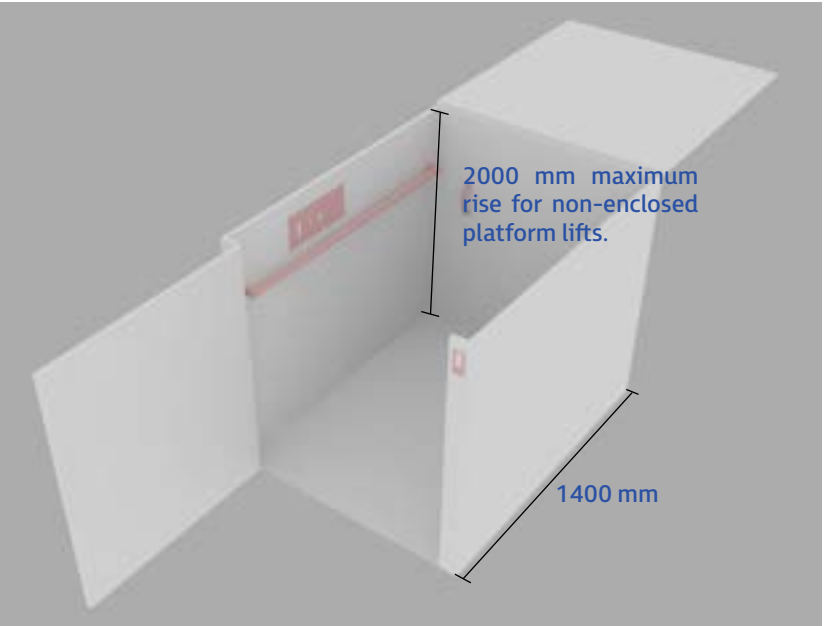

Figure 40 / Non-enclosed / short-rise platform lifts
- 3. The minimum clear dimensions of the platform are (see figures 40 & 41):